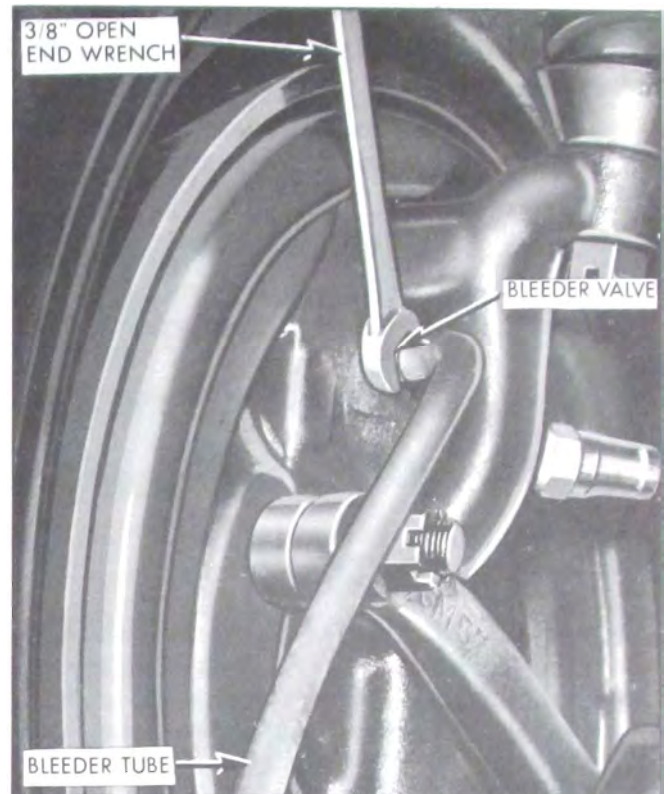

Figure 9-8—Bleeding Front Wheel Cylinder
2. Slip a brake bleeder tube over ball of wheel cylinder bleeder valve. Place lower end of bleeder tube in a clean glass jar. Unscrew bleeder valve $3/4$ of a turn. See Figure 9-8.
3. Slip a brake bleeder tube over ball of wheel cylinder bleeder valve. Place lower end of bleeder tube in a clean glass jar. Unscrew bleeder valve $3/4$ of a turn. See Figure 9-8.